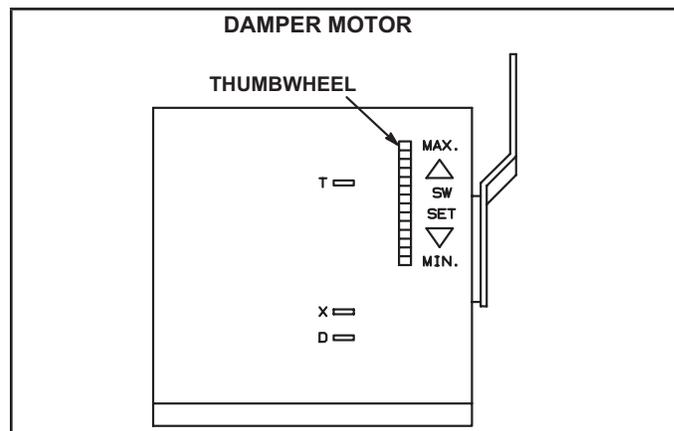

FIGURE 35
- 7 - If fresh air percentage is less than desired, adjust thumbwheel higher. If fresh air percentage is more than desired, adjust thumbwheel lower. Repeat steps until calculation reads desired fresh air percentage. See FIGURE 35.
Set damper minimum position in the same manner as economizer minimum position. Adjust motorized damper position using the thumbwheel on the damper motor. See FIGURE 35. Manual damper fresh air intake percentage can be determined in the same manner.